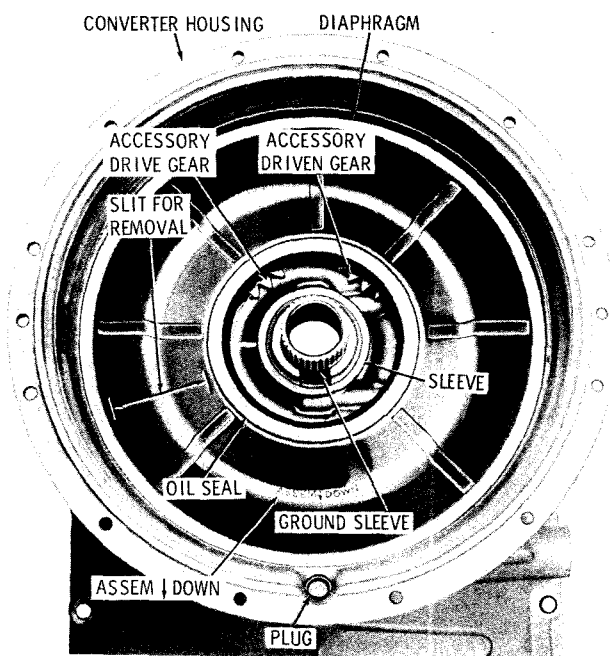

Fig. 6-3. Torque converter housing assembly—front view
(1) If the transmission has a "dry" converter housing, it will have a pressed steel diaphragm and oil seal (fig. 6-3). These must be removed before the accessory gearing can be removed. Removal destroys both the diaphragm and oil seal.
(2) To remove the diaphragm, cut a slit through the diaphragm as shown in figure 6-3. Insert a hooked tool into the slit and pry the metal above the slit outward. This will push the metal below the slit inward. Deforming the diaphragm in this way will reduce the outside diameter and the diaphragm can be lifted out.
(3) Clean the bore into which the diaphragm fits. A smooth, clean bore will prevent leakage around the new diaphragm installed.
(4) Only "dry" housings require the welch plug in the housing below the diaphragm (fig. 6-3). Do not remove the plug unless replacement is necessary. If the plug is removed, clean the bore.